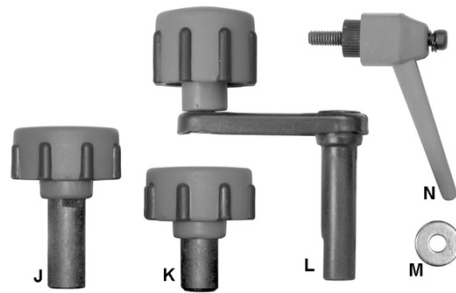

Figure 2 – Knobs and Handles
37. Move the hands in an alternate motion from back to front as the work continues through the cut. Never pass the hands directly over the cutter knife. As one hand approaches the knives remove it from the stock in an arc motion and place it back on the stock in a position beyond the cutter knife (Fig. 2).
Note: The shaft length of the two lock knobs (refer to Figure 2) is different. Be sure to install each in the correct location.